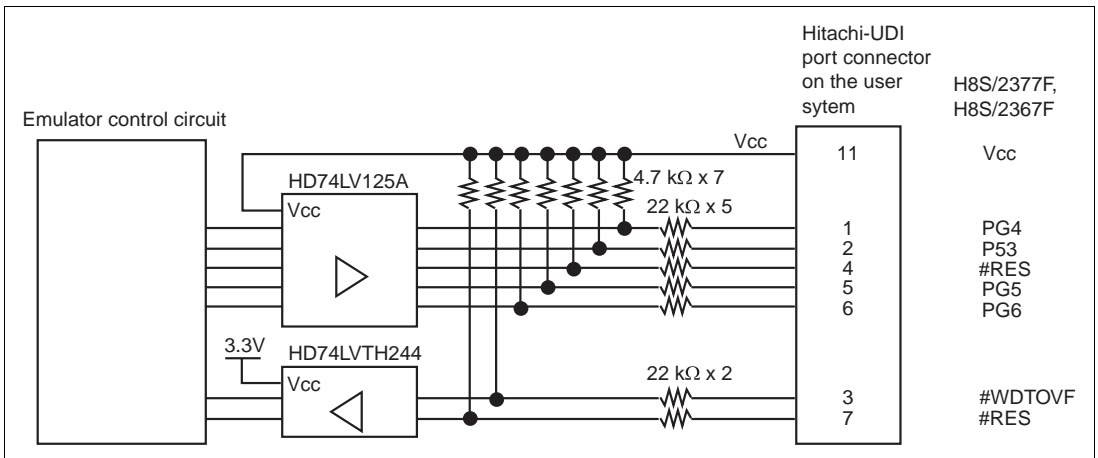

Figure 6.6 Interface Circuit in the Emulator (Reference Figure)
6. **Figure 6.6 shows the interface circuit in the emulator. Use this figure as a reference when determining the pull-up resistance value.**